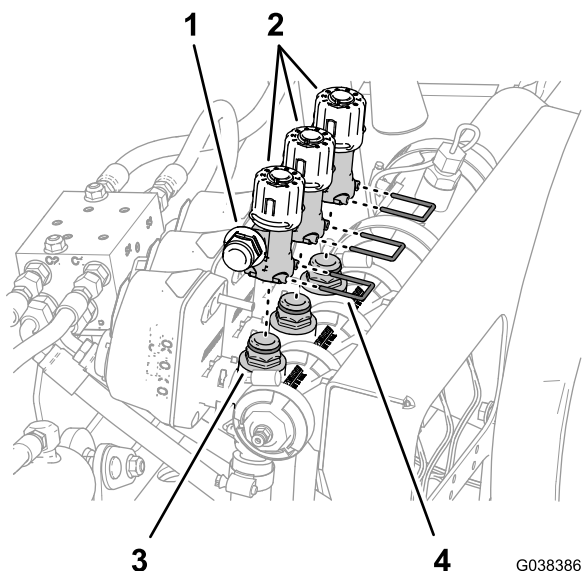

Figure 84
- Remove the 3 retainers that secure the bypass manifold to the spray valve manifold (Figure 84).
- Lift the bypass manifold from the spray valve manifold (Figure 84).